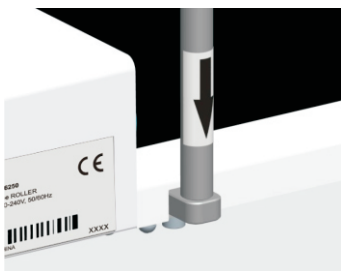

Figure 1-6. Pillar
- b. Locate the four stainless pillars in the stacking accessories. Screw the head with the M5 screw thread into extended support base in Step a (see Figure 1-6).